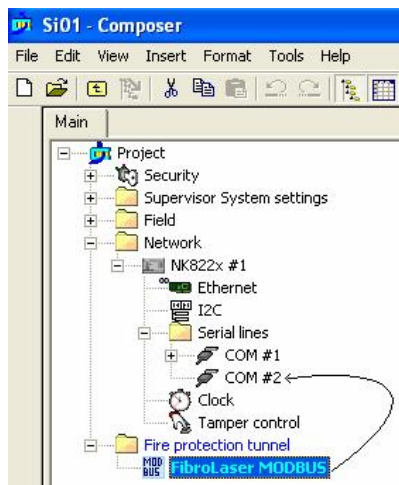

Fig. 21 Linking MODBUS to the NK8000 network
3. Drag and drop the MODBUS node to the network COM port (see Fig. 21).